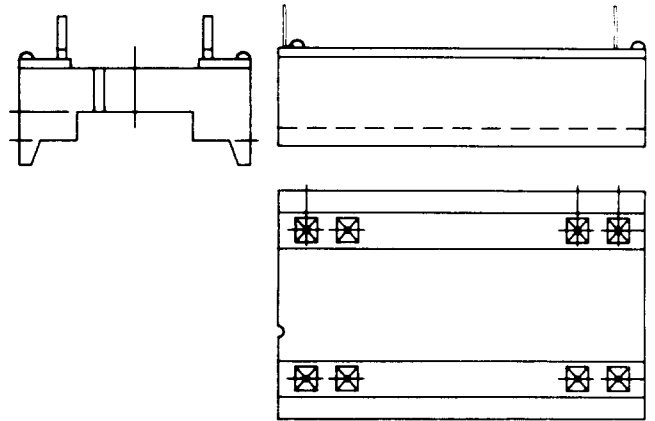

Fig. 13—KS-22320-Type Socket
**2.05 KS-22320-Type:** The KS-22320-type sockets (Fig. 13) accommodate dual-in-line packages of various row widths and pin counts. The sockets are designed for a maximum of 20 insertion-removal cycles. The contacts are one piece opposing leaf construction and accommodate dip leads that are 0.01 inch by 0.025 inch wide and have at least 50 microinches of gold plating. For more information, see Table C.